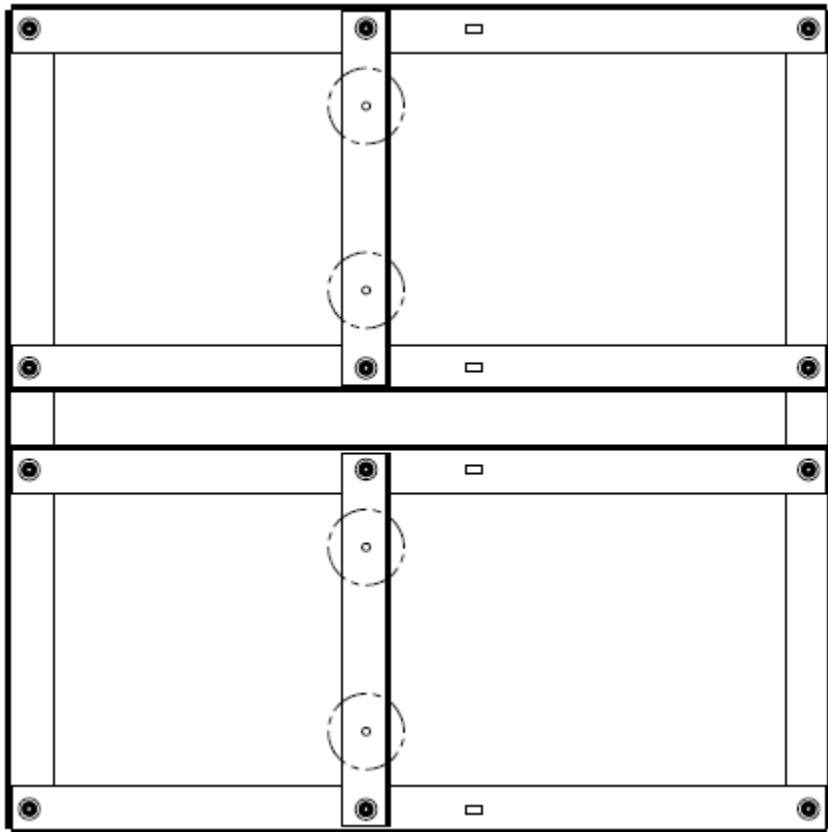

Figure 38: Penetrating fastener mount locations
8. Optionally, if you are using a penetrating fastener, mount the base using appropriately rated fasteners connected to the four locations shown in Figure 38 below.